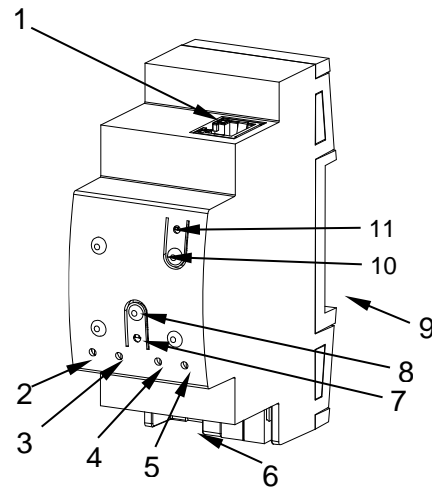

Figure 1 Element Diagram
Figure 1 shows a scheme with all the LED indicators and required connections. This device does not require an external power supply, it is powered through the KNX bus.
The programming button (8) shown in Figure 1 may be pressed to set KIPI in **programming mode**. After a short press, the programming LED (7) will light in red.